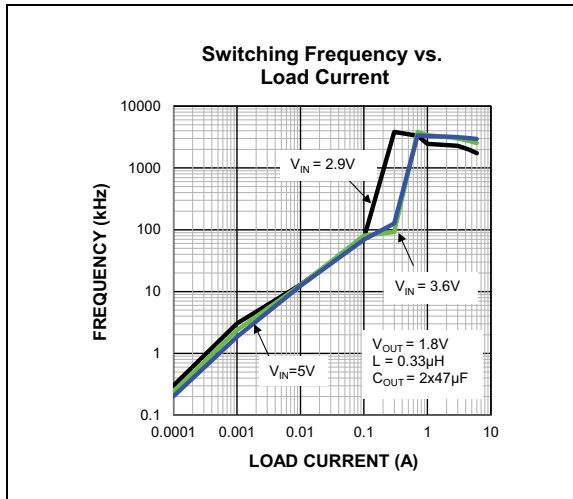

FIGURE 5-2: SW Frequency vs. Load Current.
As shown in the previous equation, the load at which MIC23603 transitions from HyperLight Load mode to PWM mode is a function of the input voltage (V_{IN}), output voltage (V_{OUT}), duty cycle (D), inductance (L), and frequency (f). As shown in Figure 5-2, as the Output Current increases, the switching frequency also increases, until the MIC23603 goes from HyperLight Load mode to PWM mode at approximately 300 mA. The MIC23603 switches a relatively constant frequency around 4 MHz after the output current is over 300 mA.